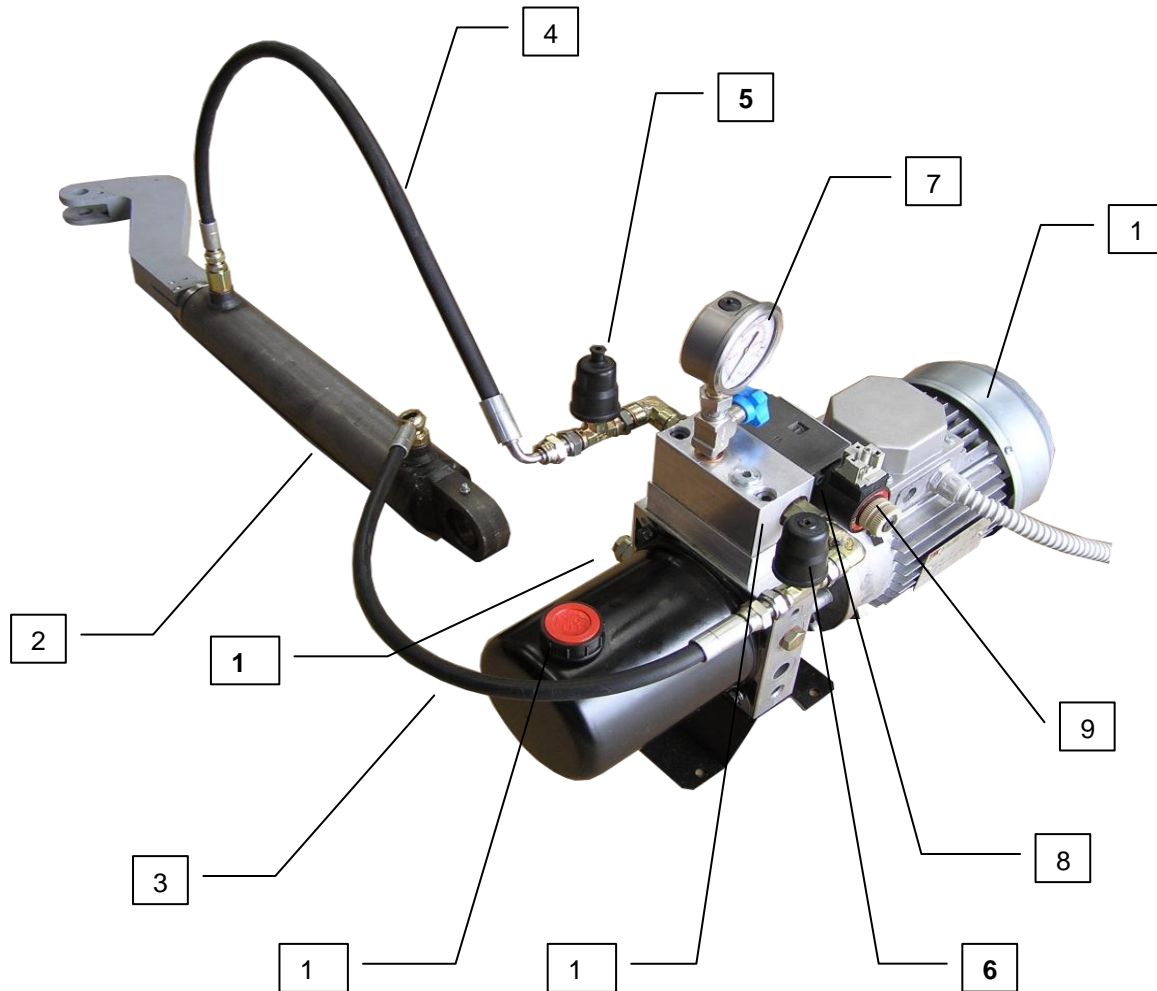

Figure 1
Both oil pressure switches (pos. 5 and pos. 6 in Figure 1) are set at 90 bar (P1 – machine work pressure) during the manufacturer's machine testing phase. Their function is to stop the up- or down-stroke of the hydraulic piston when the machine head is completely open or completely closed.
A hydraulic control valve (pos. 12 in Figure 1) is incorporated into the hydraulic unit. Its function is to protect the hydraulic unit against excessive pressure. This valve is set at 110 bar (P2) during the manufacturer's machine testing phase; 20 bar more than the set machine work pressure P1
1. Unscrew the blue valve on the pressure gauge (pos. 7) to allow the gauge to read the pressure.
2. With the head completely open, remove the two electrical wires that connect the pressure switch (pos. 5) to the electrical panel.
3. Using a small piece of electrical wire make a bridge across the two electrical wires which have been disconnected (point. no. 1). Tighten the red screw located on top of the pressure switch (pos. 5).
4. Press the Head Down button on the control panel. Once the machine head is completely closed, the hydraulic motor does not stop but carries on running, because of the bridge created in point no. 2. At this point, using the appropriate tools, it is necessary to loosen the hydraulic control valve until the pressure indicated on the pressure gauge (pos. 7 in Figure 1) reaches 90 bar.
5. Remove the electrical bridge and reconnect the two electrical wires from the pressure switch (pos. 5) to the electrical panel. **Slowly** loosen the red screw of oil pressure switch (pos. 5) until the hydraulic motor stops. At this point, the pressure switch (pos. 5) has been correctly set at 90 bar (P1).
9. Once again, remove the two electrical wires that connect the pressure switch (pos. 5) to the electrical panel and make a bridge across the two electrical wires which have been disconnected.
11. At this point, using the appropriate tools, it is necessary to tighten the hydraulic control valve until the pressure indicated on the pressure gauge (pos. 7 in Figure 1) reaches 110 bar (P2).
13. Remove the electrical bridge and reconnect the two electrical wires from the pressure switch (pos. 5) to the electrical panel.
14. Screw the blue valve closed on the pressure gauge (pos. 7).